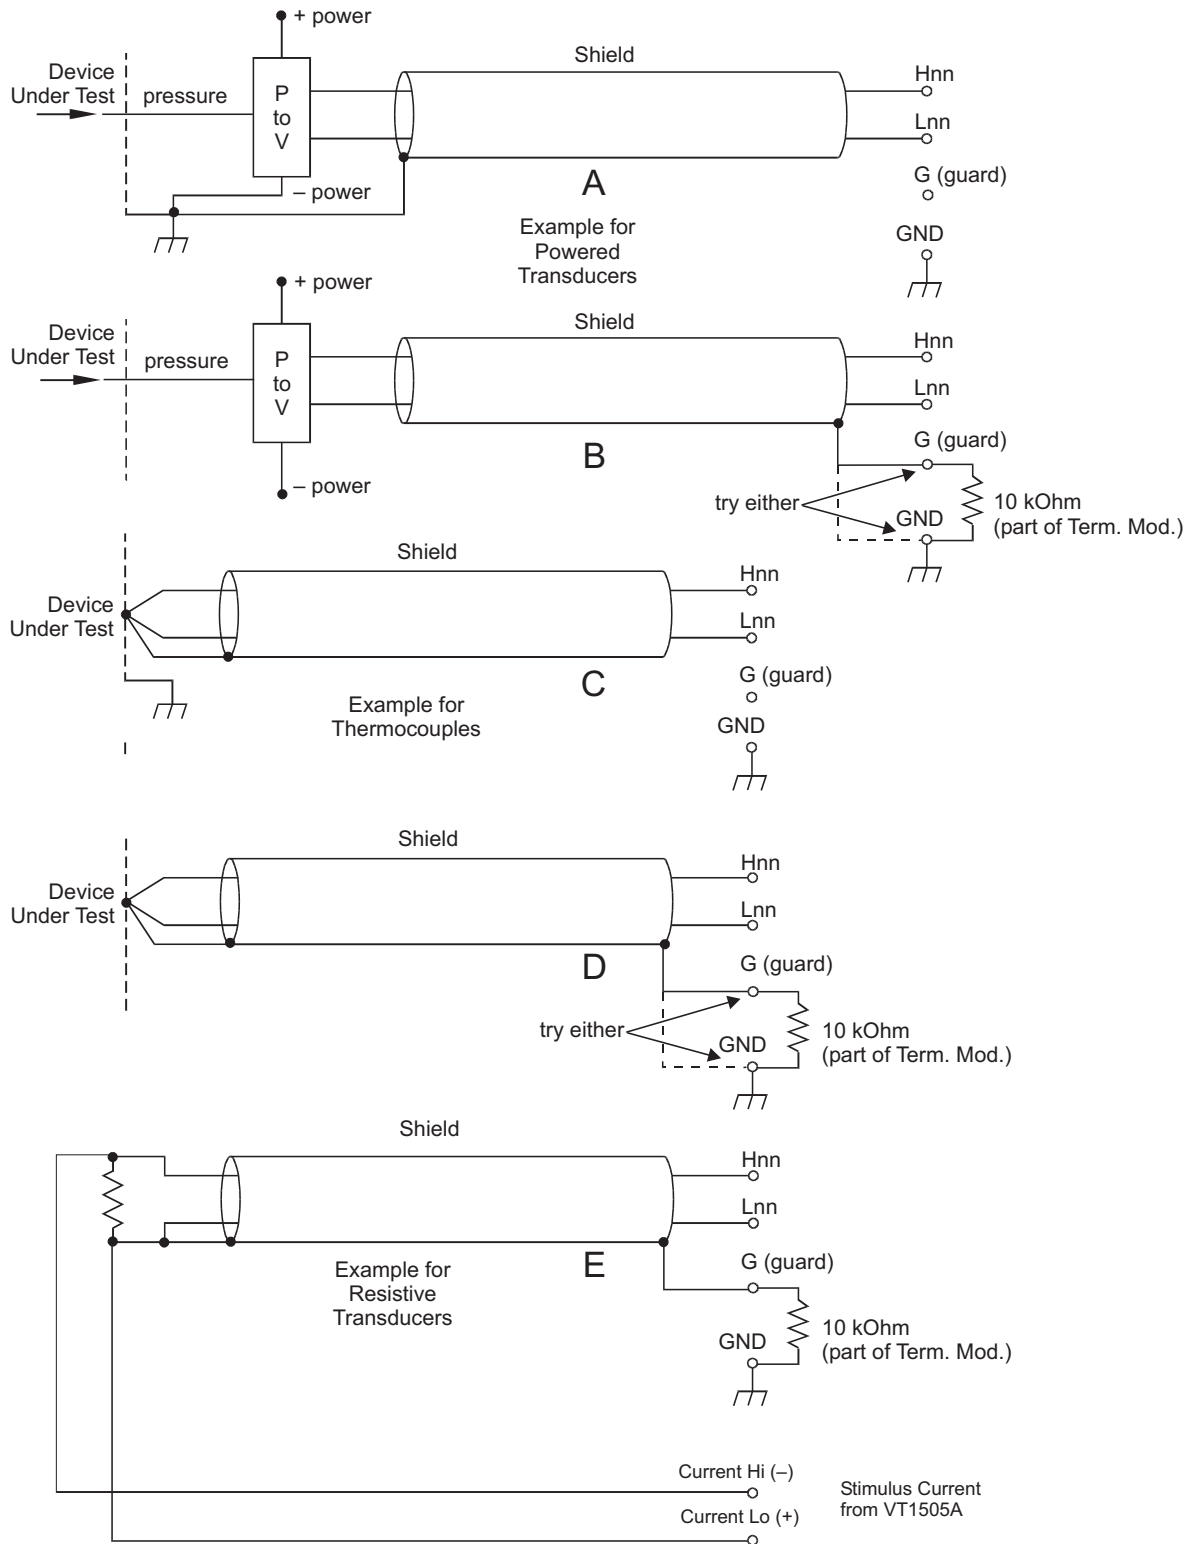

Figure 2-9: Preferred Signal Connections
For any A/D Module to scan channels at high speeds, it must use a very short sample period ($< 10 \mu\text{s}$ for the VT1419A). If significant normal mode noise is presented to its inputs, that noise will be part of the measurement. To make quiet, accurate measurements in electrically noisy environments, use properly connected shielded wiring between the A/D and the device under test. Figure 2-9 shows recommended connections for powered transducers, thermocouples, and resistance transducers. (See Appendix D for more information on Wiring Techniques).
- a. **Grounded Transducer with shield connected to ground at the transducer:** Low frequency ground loops (dc and/or 50/60 Hz) can result if the shield is also grounded at the Terminal Module end. To prevent this, remove the GND-GRD jumper for that channel (Figure 2-9 A/C).
- b. **Floating Transducer with shield connected to the transducer at the source:** In this case, the best performance will most likely be achieved by leaving the GND-GRD jumper in place (Figure 2-9 B/D).